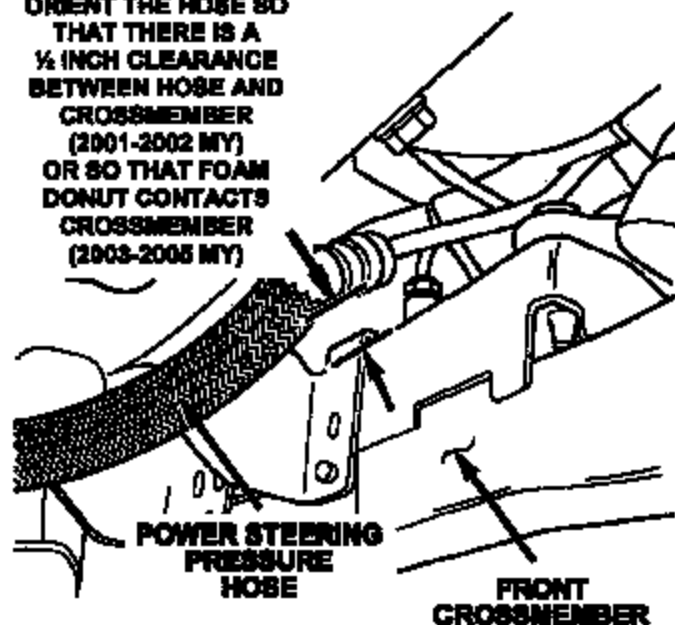

Figure 11
- The hose has $\frac{1}{2}$ " (12.5 mm) clearance to the front crossmember (2001-2002 model years) (Figure 11).